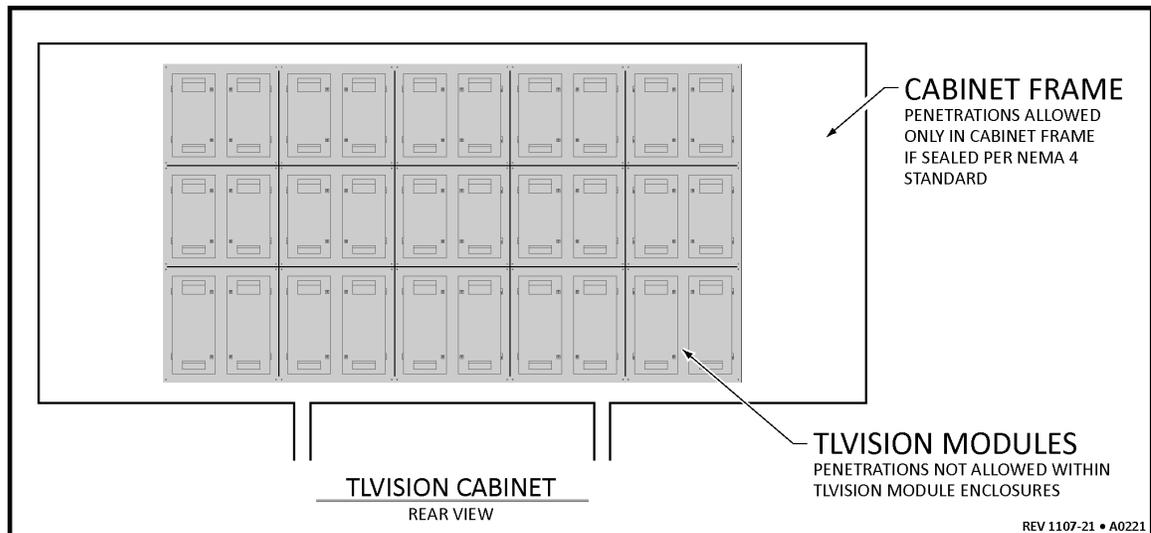

FIGURE 21 — CABINET FRAME VS TLVISION CABINET
- Additional penetrations may be created in the TLVision cabinet only if they are sealed per NEMA 4 Standard. Additional penetrations are NOT allowed to the TLVision module enclosures. Refer to Figure 21 below.